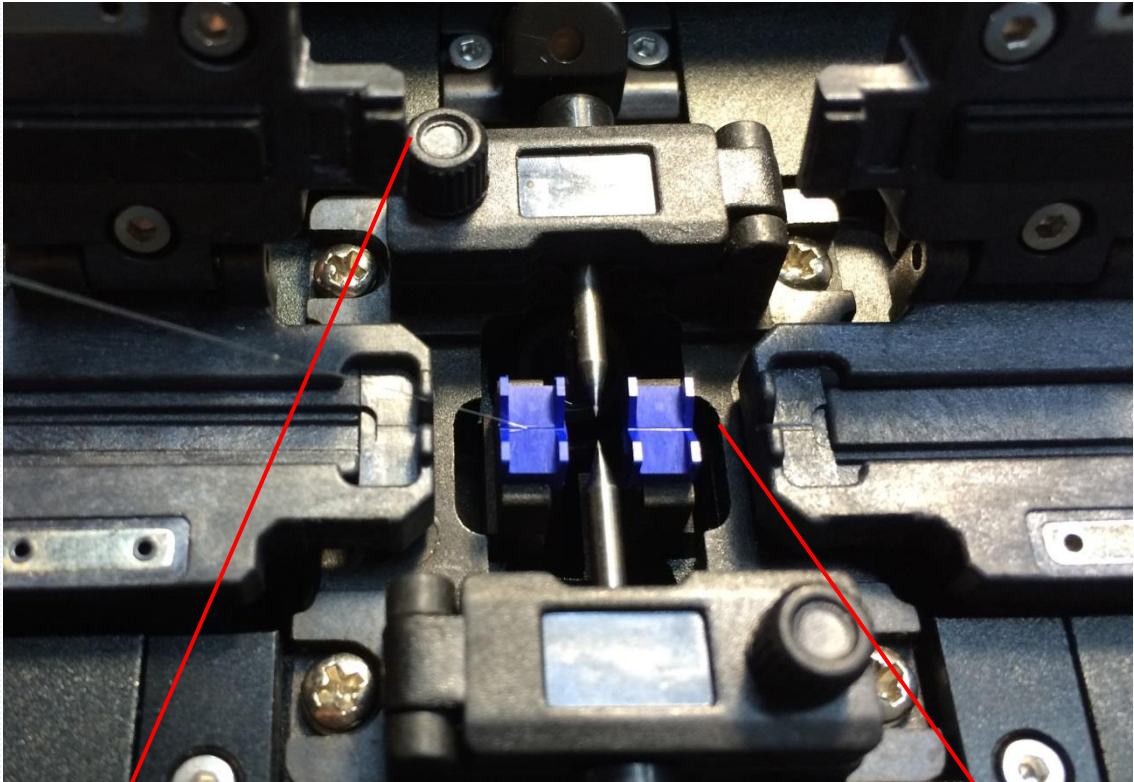

Fig.4—2 Cleaning V-grooves with Cleaved Fiber
(1) Open the wind protector and fiber clamps.
(2) Clean the bottom of the V-groove with an alcohol-impregnated thin cotton swab as shown in Fig. 4—l. Remove excess alcohol from the V-groove with a clean dry swab.
(1) Clean the mirror surface with an alcohol-impregnated thin cotton swab as shown in **Fig.4** —4. Remove excess alcohol from the mirror surface with a clean dry swab.